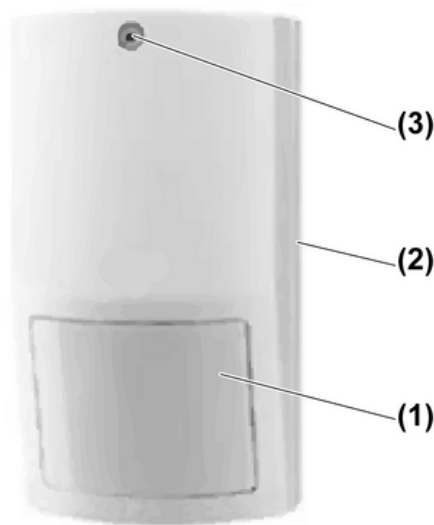

Figure 1
- Slacken central screw (3) (Figure 1).